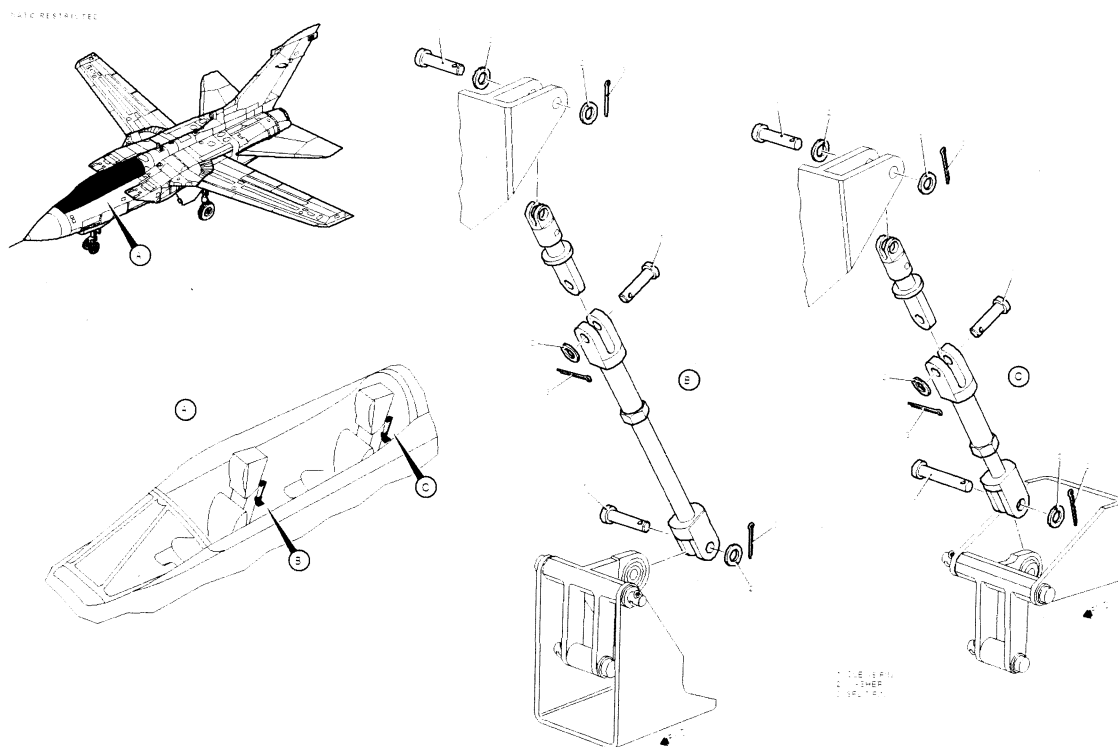

Fig. 11. MDC trip rods
- (iv) Ensure clevis pins (1), washers (2) and split pins (3) are orientated as shown (Fig. 11)